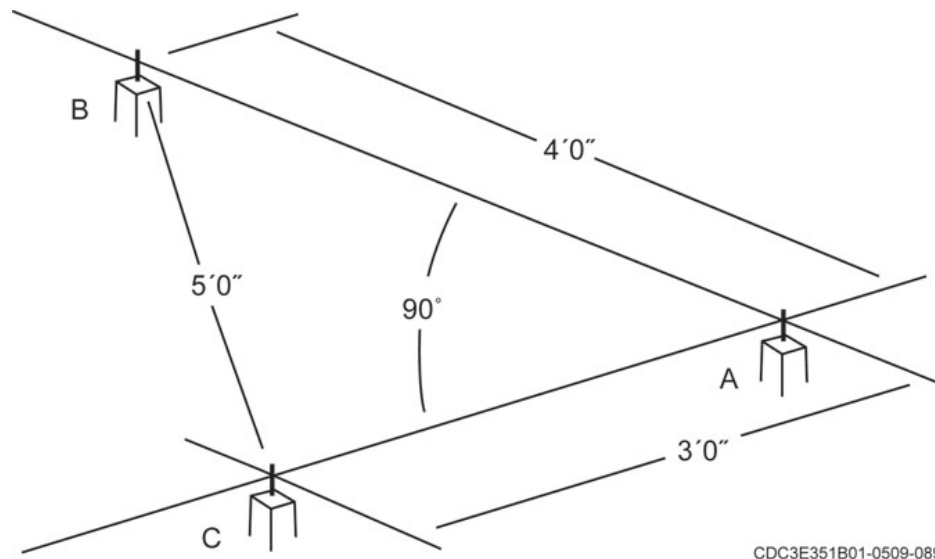

Figure 1-3. Squaring building corners.
If a transit isn't available, you can establish a right triangle (a square building corner) by carefully applying the basic 3-4-5 rule shown in figure 1-3. These numbers normally represent the ratio in feet and can be doubled any number of times to increase their accuracy. For example, you can use a larger triangle (6-8-10, 9-12-15, or 12-16-20) if the proposed building lines are long enough. In any case, select the largest combination that suits your needs and take these four steps:
1. Measure along the given reference lines from point "A" 4 feet and establish point "B" as illustrated in figure 1-3.